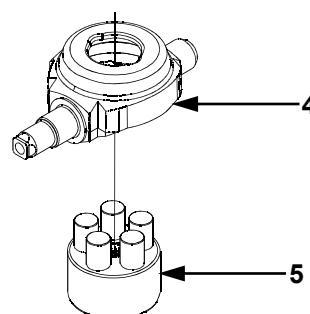

Figure 16
10. **(See Fig. 16)** Disassemble the pump cylinder block (5) from the swashplate (4).
15. **(See Fig. 16)** Place the pump block assembly (5), pistons down, on top of the thrust bearing in the swashplate (4).